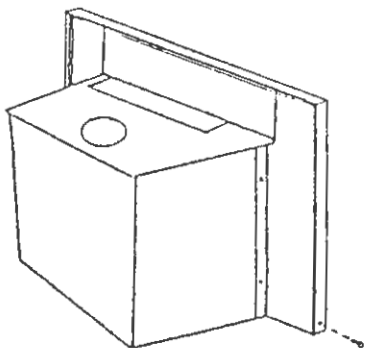

FIGURE 5 **Securing Panels and
8. Next slip the brass trim over the top edge of the trim panels and slide all the way down until sides and tops interlock. Obtain screws provided and lock brass trim in place. (See Figure 5).